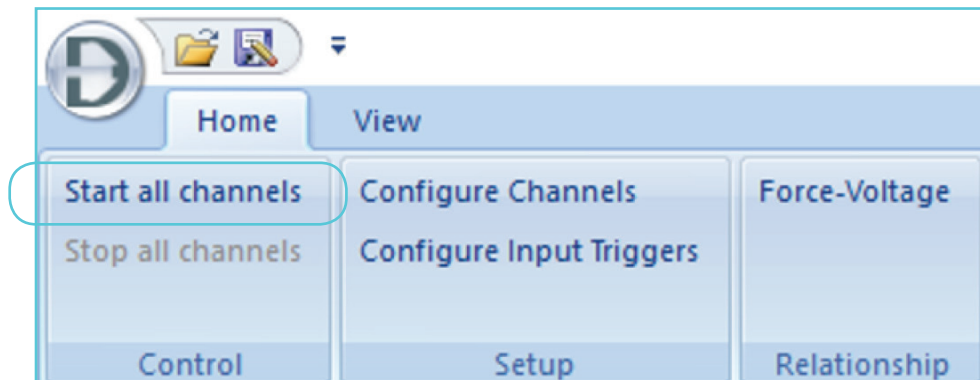

Figure 4.1.7 Clicking on 'Start all channels'
1. 'Start all Channels' in the 'Control' sub menu in the 'Home' menu (figure 4.1.7). This will start the stimulation protocols of all channels simultaneously running the Stimulation protocol loaded/made for each channel.